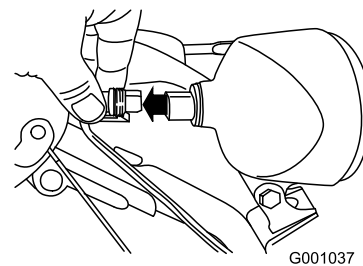

Figure 53
1. Remove the wire connector from the back of the headlight (Figure 53).